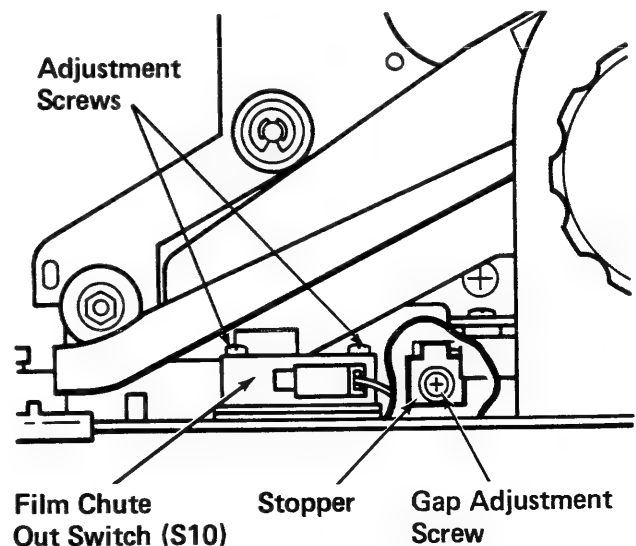

Figure 3-7B
1. Loosen the Adjustment Screws for the Film Chute Out Switch (S10). See Figure 3-7B.